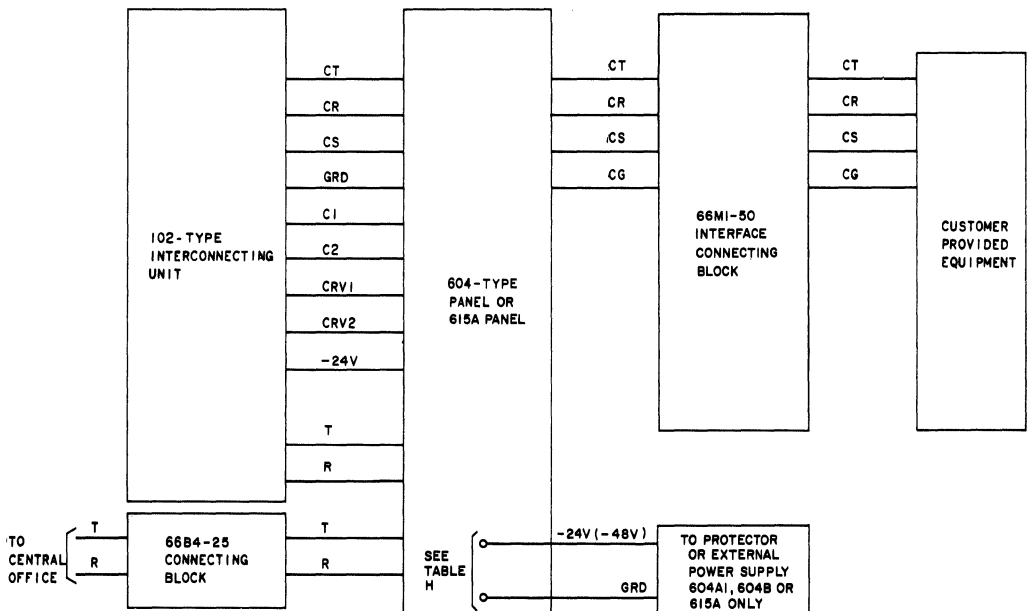
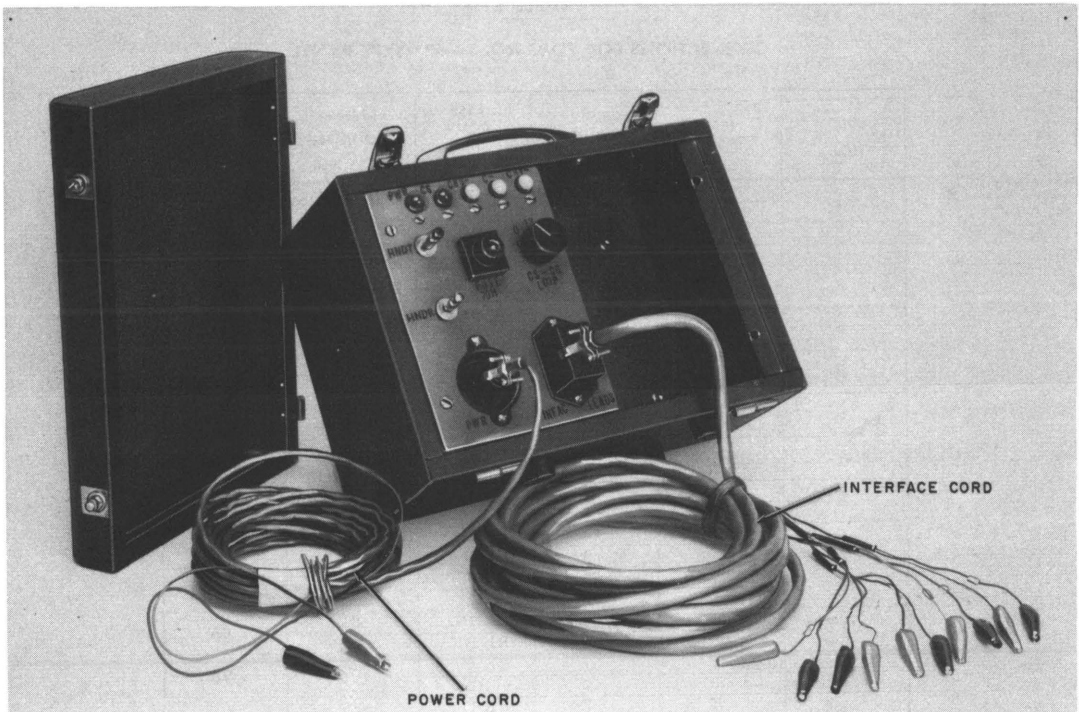

Fig. 8—Block Diagram—102-Type Interconnecting Unit With 604-Type or 615A Panel
Fig. 12—142A Test Set
604-Type Panel (Fig. 8 and Tables B, C, D, E, H, I, and J)
▶615A Panel (Fig. 8 and Tables F, G, and H)
unit, or CP dc power supplied through the KS-20944, List 1 protector, to the 66T1 connecting block on the rear of the 615A panel as shown in Fig. 8 and Table H. Connect a separate ground wire to the rack or 16C apparatus mounting. Refer to the appropriate section in Division 518 for proper grounding of power plants. Proper grounding of equipment and power unit is important to prevent damage from power line surges.⚡
3.20 When voltage protection is required, the KS-20944 protector must be mounted externally and wired to the power supply terminals of the 69G apparatus mounting (Fig. 7) or the 604-type and 615A panel (Fig. 8).
(1) Supply talk battery by connecting a 500-ohm resistor from the $-24V$ supply to terminal CR and strap terminal CT to ground. (Make all connections on the telephone company side of the interface connecting block, Fig. 8.) A 2A KTU or 31A KTU may be used for battery feed instead of the 500-ohm resistor. Refer to Section 518-112-421 for connections. Connect a 1013A (or equivalent) hand test set to terminals CT and CR.
(2) Connect a wire strap across terminals CS and CG. K5 relay will operate completing the talk path, and the toll operator will answer the call. Verify satisfactory transmission.
B. With 142A Test Set (Fig. 12)
(1) Connect the power cord of the 142A test set to the $-24V$ power supply (same supply as for IU) as follows:
(2) Connect the interface cord of the 142A test set to the telephone company side of the interface block as follows:
(3) Connect a 1013A (or equivalent) hand test set to the HNDR and HNDT terminals of the 142A test set with the MON-TALK switch in the MON position. Set the CS-CG LOOP switch to the 18-ohm position for a 102A IU or the 100-ohm position for the 102B IU.